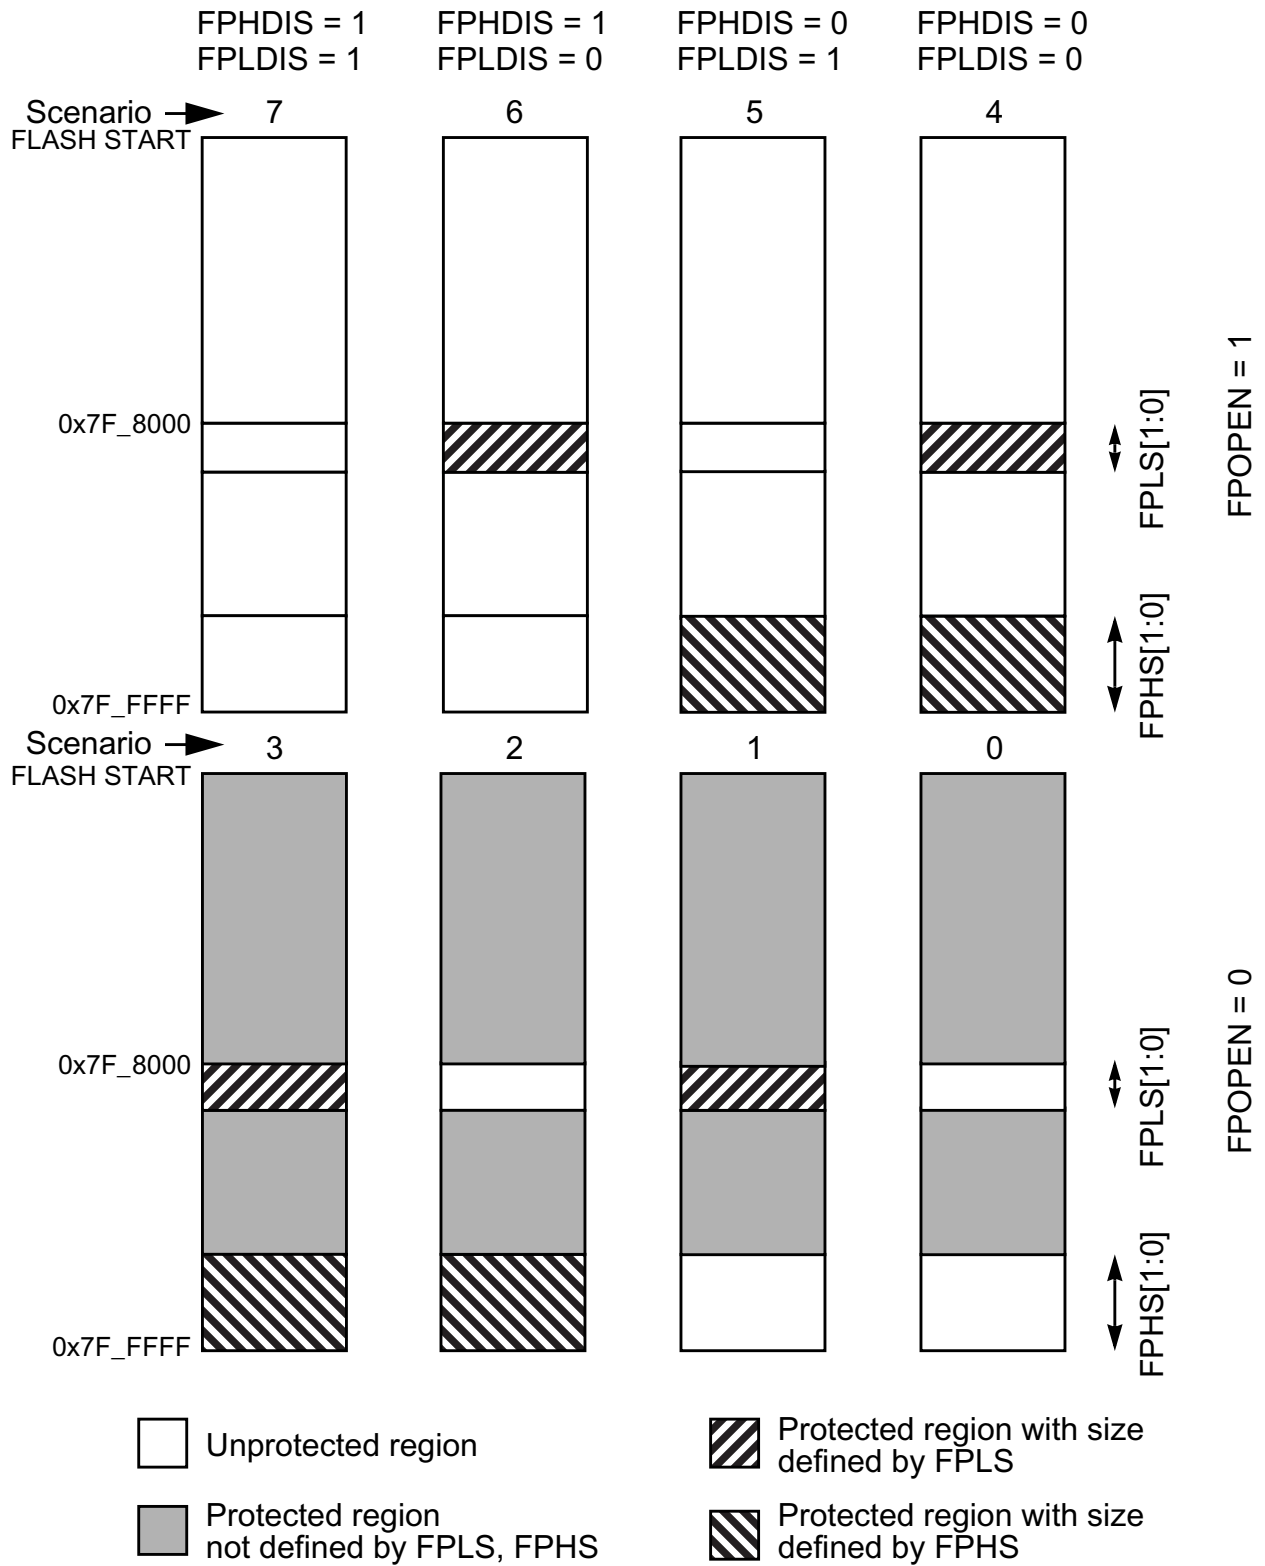

Figure 9-14. P-Flash Protection Scenarios
All possible P-Flash protection scenarios are shown in Figure 9-14. Although the protection scheme is loaded from the Flash memory at global address 0x7F\_FF0C during the reset sequence, it can be changed by the user. The P-Flash protection scheme can be used by applications requiring reprogramming in single chip mode while providing as much protection as possible if reprogramming is not required.
1. Allowed transitions marked with X, see Figure 9-14 for a definition of the scenarios.